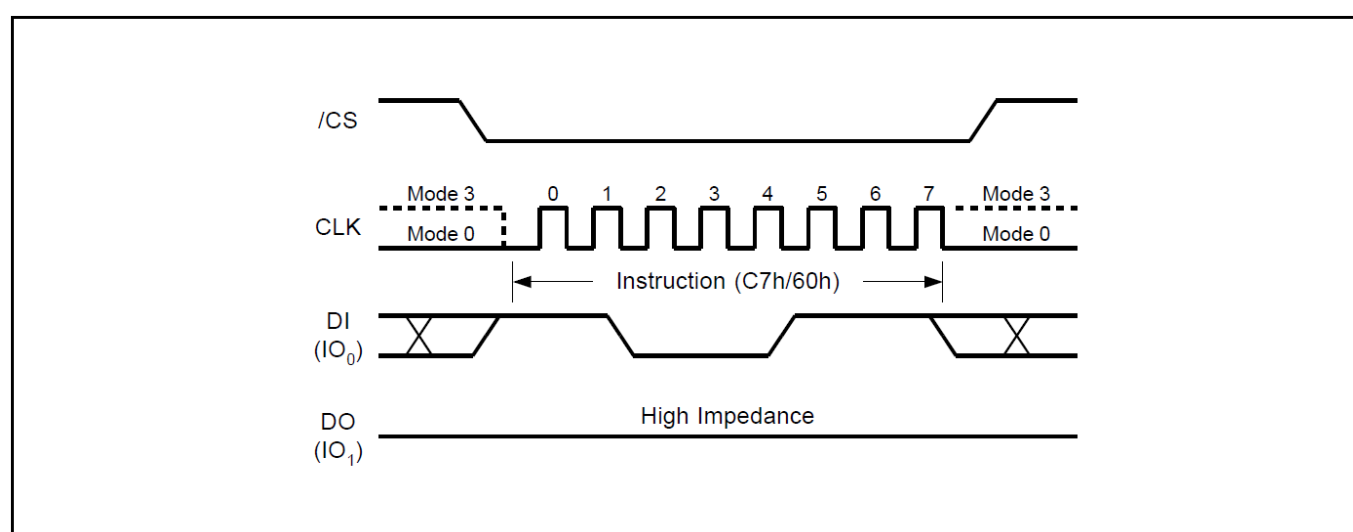

Figure19. Chip Erase Sequence Diagram
The Chip Erase command sequence: CS# goes low → sending Chip Erase command → CS# goes high. The command sequence is shown in Figure19. CS# must be driven high after the eighth bit of the command code has been latched in; otherwise the Chip Erase command is not executed. As soon as CS# is driven high, the self-timed Chip Erase cycle (whose duration is t_{CE}) is initiated. While the Chip Erase cycle is in progress, the Status Register may be read to check the value of the Write in Progress (BUSY) bit. The Write in Progress (BUSY) bit is 1 during the self-timed Chip Erase cycle, and is 0 when it is completed. At some unspecified time before the cycle is completed, the Write Enable Latch (WEL) bit is reset. The Chip Erase (CE) command is executed, if the Block Protect (BP2, BP1, and BP0) bits are 0 and CMP=0 or the Block Protect (BP2, BP1, and BP0) bits are 1 and CMP=1.